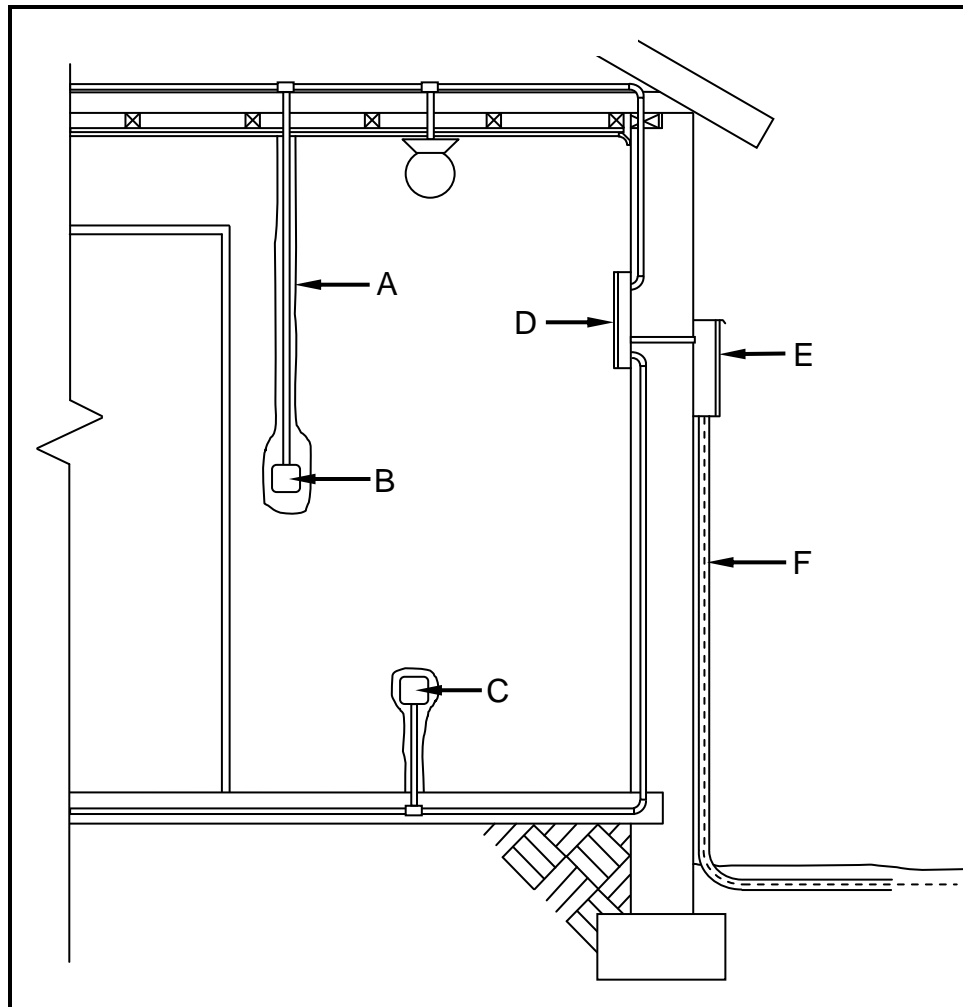

FIGURE 3.9
3.9 FIGURE 3.9 below shows the electrical layout of a house. Study the illustration and answer the questions that follow.